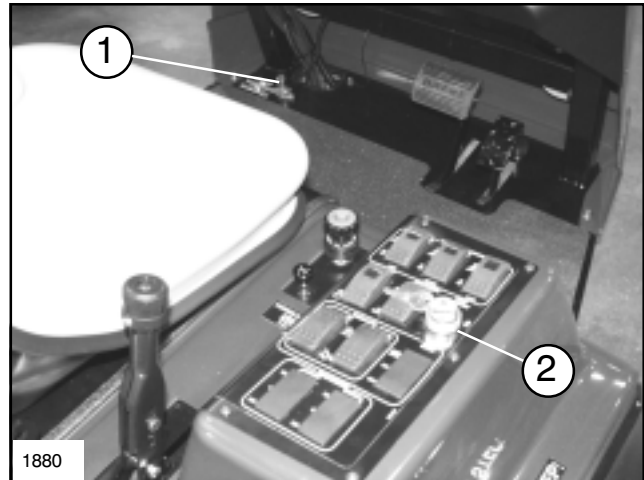

FIG. 2
MASTER ON/OFF FOOT SWITCH (FIG 2):
5. MASTER ON/OFF FOOT SWITCH (ON FLOORBOARD): The Foot Switch works in series with Individual Boom ON/OFF Switches. Activating the Foot Switch will turn all boom sections off. Activating again will turn on all sections that are selected with the individual switches. See FIG. 2.